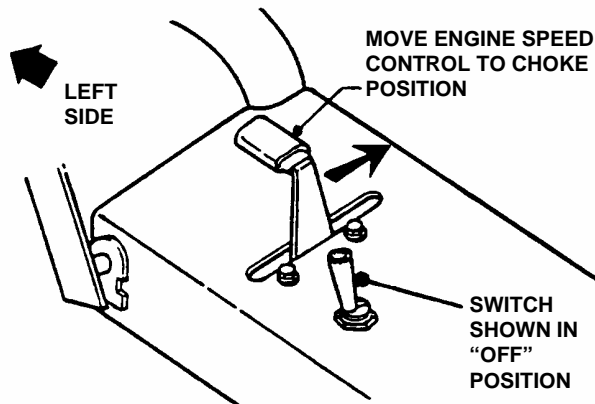

FIGURE 3.5
5. Move Engine Speed Control Lever to the **CHOKE** position. See Figure 3.5.
10. Push Blade Clutch Switch to **ON** position. See Figure 3.5.